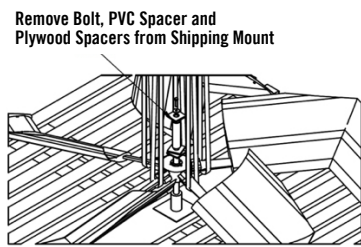

Figure 29. Remove Shipping Restraint
3. Remove bolt, PVC spacer, and plywood spacers from the shipping mount (**Figure 29**).